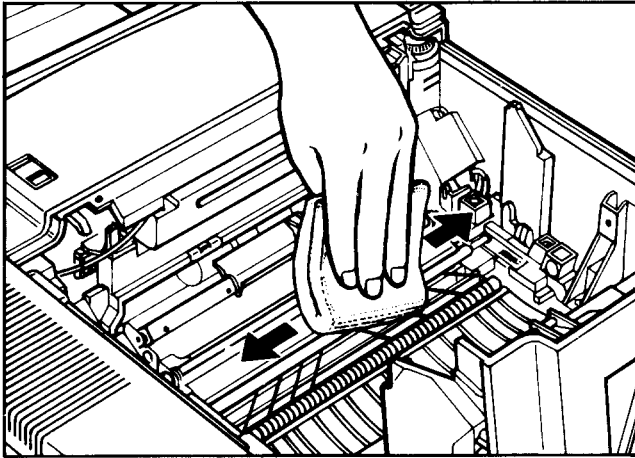

Fig. 10-24
- **Transfer guide** - Moisten a cloth and wipe off the the transfer guide (Fig. 10-24).